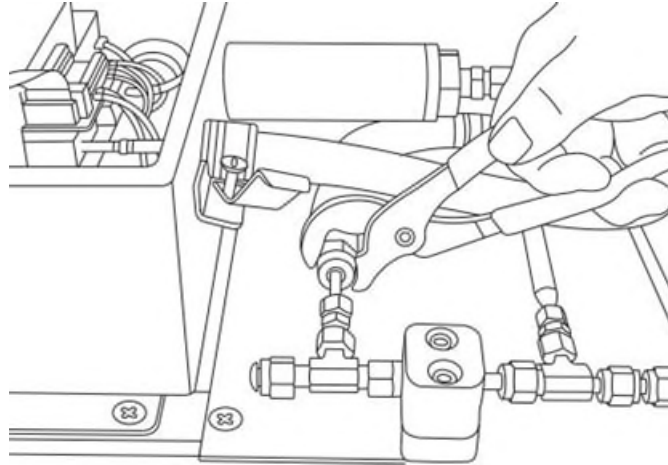

Figure 84. Loosen the cable gland cap
- Using an adjustable wrench, loosen the cable gland cap on the panel by turning “up” toward the analyzer. Do not remove cable gland cap. Refer to Figure 84.